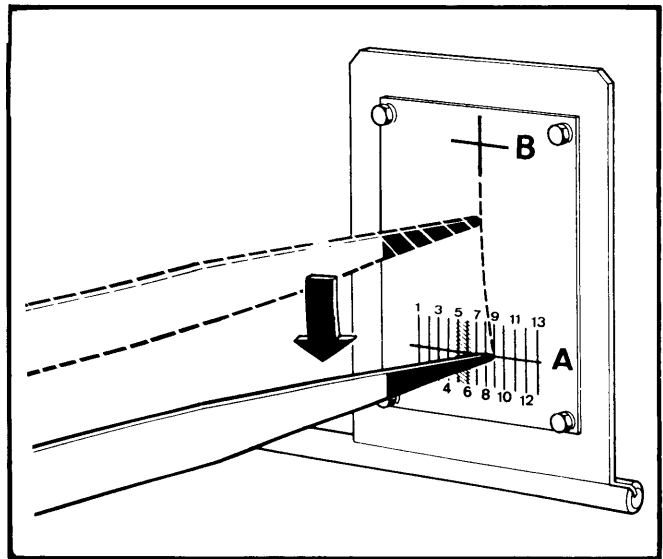

Fig. 2 Scale Board for Reading Steering Box Height
3) Remove axle compression tool and raise vehicle slowly, with a jack (located in center of lower front crossmember). During this operation, the pointer of the measurement tool will have followed a curve from point "B" to one of the figures on scale "A" (See Fig. 2). Read and record the nearest figure on scale boards on both sides of vehicle. Steering box height setting is correct if pointer is within 7.5-9" (190-229 mm) R-5, 6-7.75" (152-197 mm) all others, reading on scale.